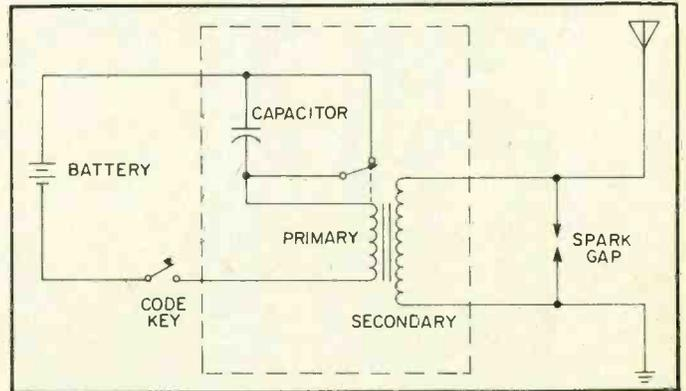

Fig. 2. Marconi's first transmitter, although remarkably similar to Hertz's, had the addition of a grounded spark gap and high antenna.
**All About "Q."** Another more convenient measure of selectivity is  $Q$ . To specify our bandpass filter's  $Q$ , just divide its center frequency by its -3 dB bandwidth. For example, if the center frequency is 1000 Hz and the -3 dB bandwidth is 200 Hz, the filter has a  $Q$  of 5. Note that  $Q$  is a dimensionless number. Higher  $Q$ s will obviously result in more selective filtering, as can be seen from the graph of Fig. 2. While high- $Q$  filters are desirable from the standpoint of selectivity, "ringing" will limit the amount of  $Q$  that can be used.
Fig. 2. The higher the "Q" value of the filter, the narrower the bandpass frequency width will be. Obviously, a filter with a "Q" value of 20 will exhibit a narrower width than one with a "Q" of 5.
**First Transmitter.** At first Marconi's transmitter, though more powerful, was quite similar to Hertz's. His great contribution at this stage was grounding one terminal of the spark gap and elevating the other. (Fig. 2)